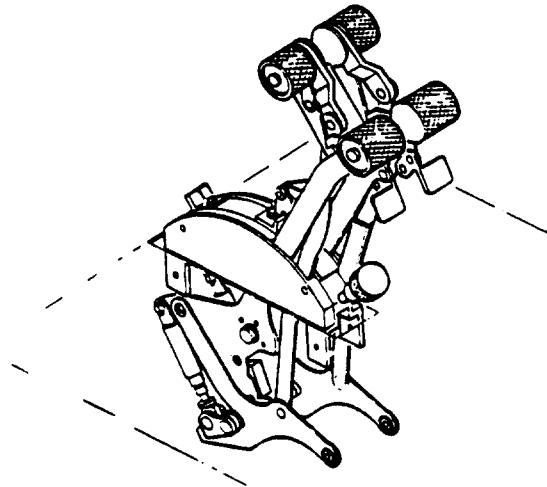

Figure 1 - Engine Controls - Pedestal
1. Description. The dual pedestal-mounted engine controls, (see Figure 1) incorporate the thrust reverser control components. Each throttle lever assembly includes a main throttle lever and latch, an auxiliary (reverser) throttle lever and latch, an actuation link assembly, a reverser control lever, a stop lever, an interlock (lock-out) solenoid, and two adjustable RPM stops. Each throttle assembly also incorporates two electrical control switches wired into a single harness as well as an electrical lock-out solenoid to prevent selecting engine power settings above 65-percent N1 RPM until the reversers are fully deployed. Mechanical interlocks also prevent commanded reverse thrust with the main throttles in any position other than idle.